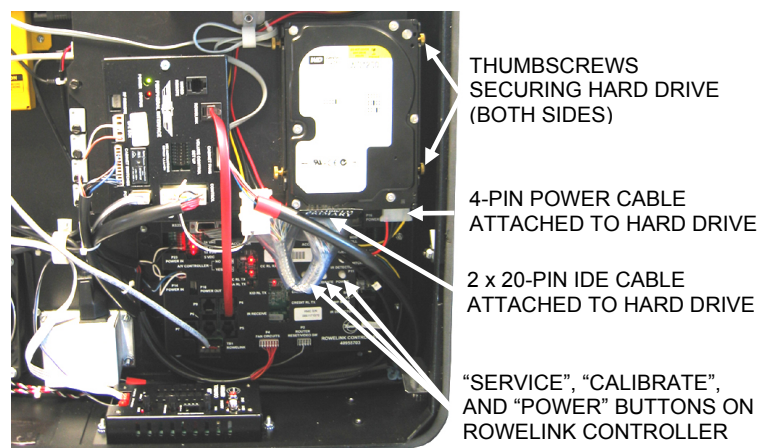

Figure 9-B – Inside View of Lower-Right Side of Cabinet
3. Partially install the 2 provided thumbscrews in the mounting holes on each side of the hard drive (see *Figure 9-B*), leaving about 1/16 of an inch between the hard drive and the thumbscrew.
4. Install the hard drive into the bracket in the lower right-side of the jukebox (as shown in *Figure 9-B*) and tighten the thumbscrews on the left side of the hard drive, leaving the thumbscrews on the right side of the drive loose.
5. Locate the free ends of the 4-pin hard drive power cable and the 2 x 20-pin IDE cable. These cables will be routed out of the bottom of the computer core near the hard drive. Connect these cables to the hard drive as shown in *Figure 9-B*.
In order to properly connect to the network, a valid trigger code must be entered in the software. To enter your trigger code, press the SERVICE button on the Rowelink Controller (see *Figure 9-B*). On the touchscreen, touch **System Setup** and then touch **Enable/Extend Features**. Enter the trigger code provided to you with your hard drive and then press the **Send Code** button. The jukebox will display “Valid trigger code entered” if it accepted your entry.